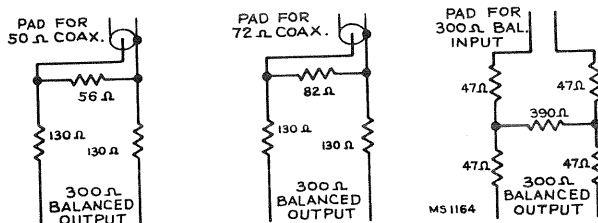

Figure 28—Sweep Attenuator Pads
**VHF Attenuator Pad**—Refer to figure 28 under Alignment Procedure.
**TUNER VHF ALIGNMENT**—Connect the VHF sweep generator to the antenna terminals. In order to prevent coupling reaction from the sweep generator, it is advisable to employ a resistance pad between the antenna terminals and the generator. Figure 28 shows three different resistance pads for use with sweep generators with 50 ohm co-ax output, 72 ohm co-ax output or 300 ohm balanced output. Choose the pad to match the output impedance of the particular sweep generator employed.